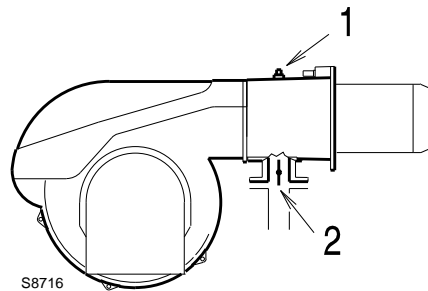

Fig. 24
Gas pressure measured at the test point 1)(Fig. 24), with:
Pressure loss at gas butterfly valve 2)(Fig. 24) with maximum opening: 90°.
- Subtract the combustion chamber pressure from the gas pressure measured at test point 1)(Fig. 24).
$$\begin{aligned} \text{Gas pressure at test point 1)(Fig. 24)} &= 14.5 \text{ mbar} \\ \text{Pressure in combustion chamber} &= 3.0 \text{ mbar} \\ 14.5 - 3.0 &= 11.5 \text{ mbar} \end{aligned}$$
To know the required gas pressure at test point 1)(Fig. 24), set the maximum output required from the burner operation, then:
- Read, on the right (column 1) the socket pressure 1)(Fig. 24).
pressure required at test point 1)(Fig. 24).